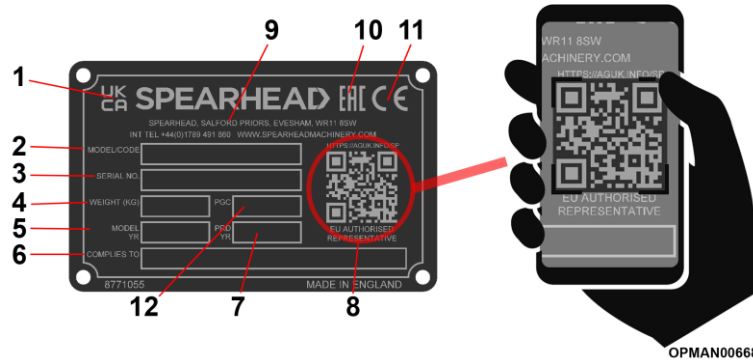

Figure 1.5 – Serial Plate
Each machine is equipped with a serial plate; see Figure 1.5 that includes the following data in this order:
By utilising a smart phone and scanning the Authorised Representative QR scan code found on the right-hand side of the serial plate (ref 8, Figure 1.5) using a suitable QR scanning App, you can find details for Spearhead Machinery authorised representatives for its various territories.